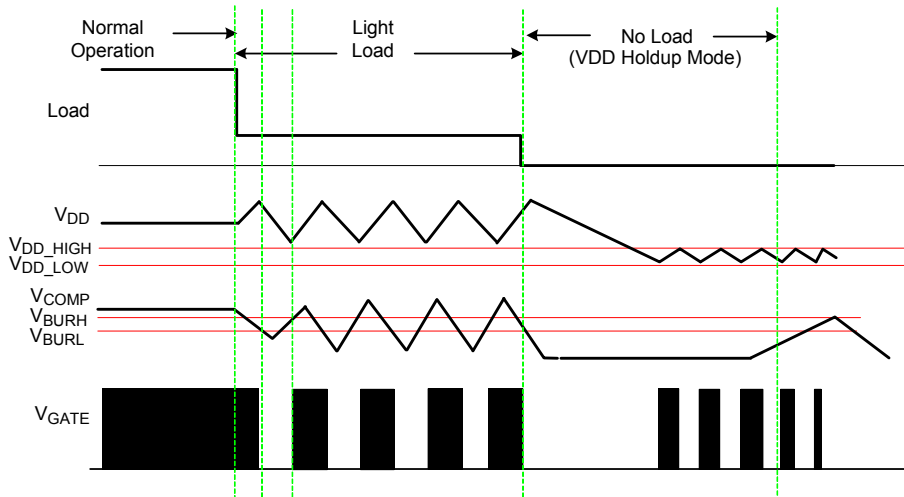

Figure 3. Burst Triple-Mode
To fulfill green mode requirement, there are 3 operation modes in R7731A. Please also refer to Figure 3 for details.
- **Burst Mode** : During light load, switching loss will dominate the power efficiency calculation. This mode is to cut switching loss. As shown in Figure 3, when the output load gets light, feedback signal drops and